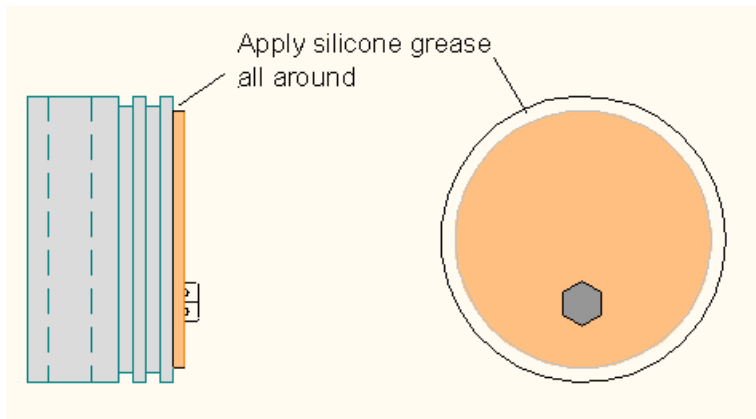

Figure 3 – Application of protective silicone grease on Forward Bulkhead perimeter.
- 3. Apply a generous amount of silicone grease on the Bulkhead around the edge of the cork liner, as illustrated in Figure 3.